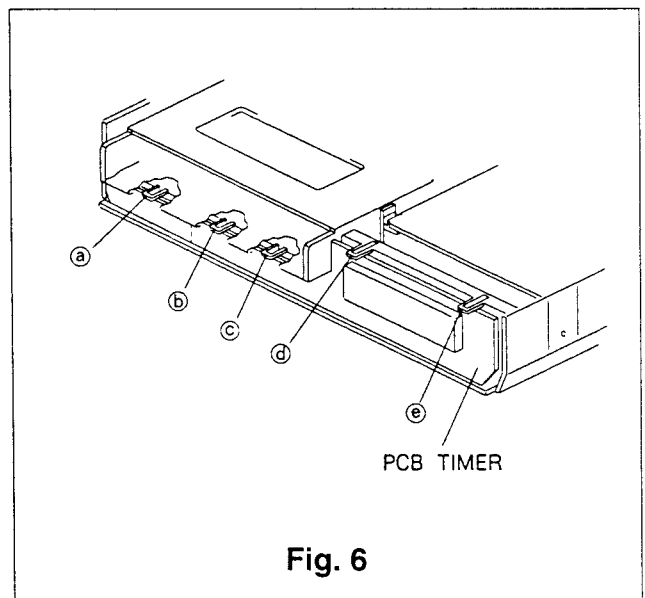

Fig. 6
- B. Unfasten five stoppers (①~⑤), and remove the PCB TIMER, as shown in Fig. 6.